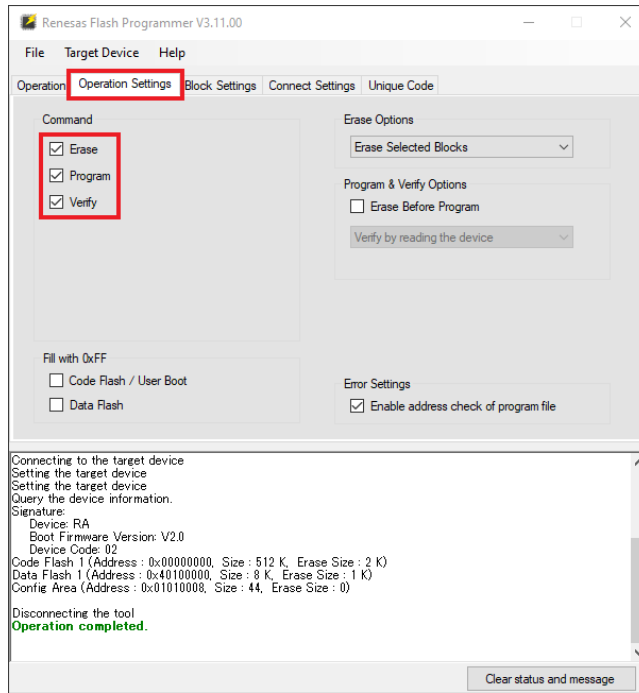

Figure 6. Operation Settings in Renesas Flash Programmer
- In the main window select the **Operation Settings** tab and ensure in the **Command** section **Erase**, **Program** and **Verify** are selected (Figure 6).